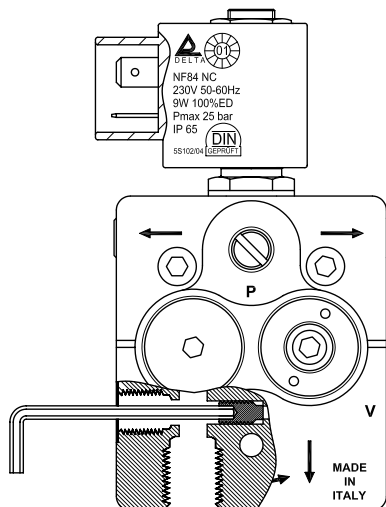

Fig. 2
3. Using a 2.5 mm Allen wrench, insert and screw the by-pass plug in the vacuum gauge port (Fig. 2).
2. Using a 2.5 mm Allen wrench, unscrew the by-pass plug from the vacuum gauge port (Fig. 2).